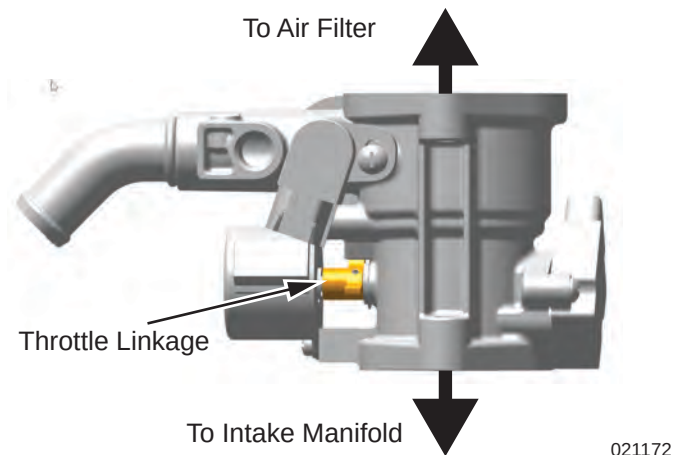

Figure 10-12. External Throttle Valve Linkage
6. See Figure 10-12. Clear any fault codes. While visually observing the external throttle valve linkage remove and reinstall the 15A fuse from the fuse holder in Wire 13. The throttle linkage should fully sweep then set itself for engine starting. Once the sweep is done, start generator in MANUAL.